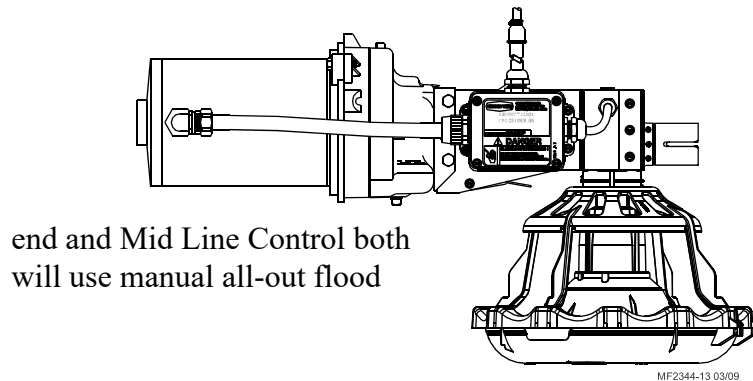

Figure 33. End Control Installation
2. Install the Feeder Boot by sliding the straight end of the Feeder Boot into the belled end of the Feeder Tube. Install a clamp/anti-roost bracket on the bell and tighten. The Feeder Boot must be level with the open top of the Feeder Boot flat. See **Figure 33**. **DO NOT INSTALL THE ANCHOR BEARING AND BEARING RETAINER AT THIS TIME.**